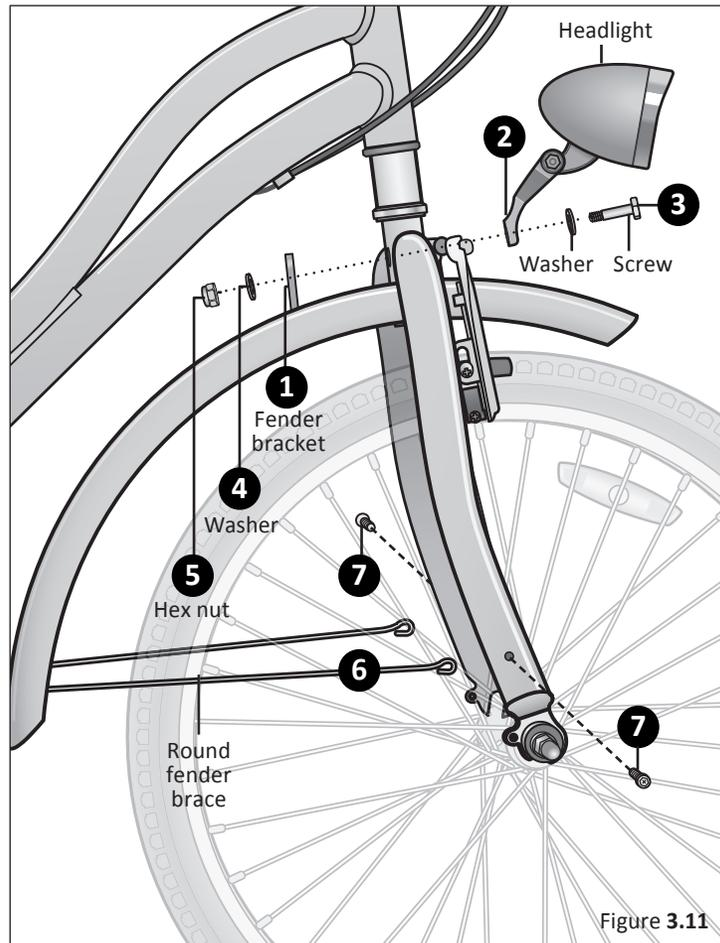

Figure 3.11
- 2 Place the axle washers on the axle and slide it up against the fork drop out. Figure 3.11
- 1 Position the front fender so the fender bracket is on the inside of the frame. Align the hole in the bracket to the hole in the fork crown. Figure 3.11